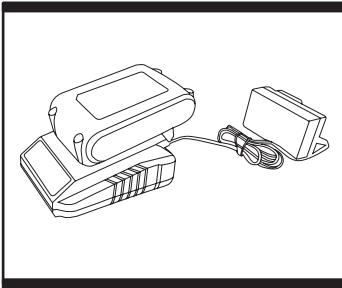

Fig. 1
1. TO CHARGE THE BATTERY PACK (Fig. 1)